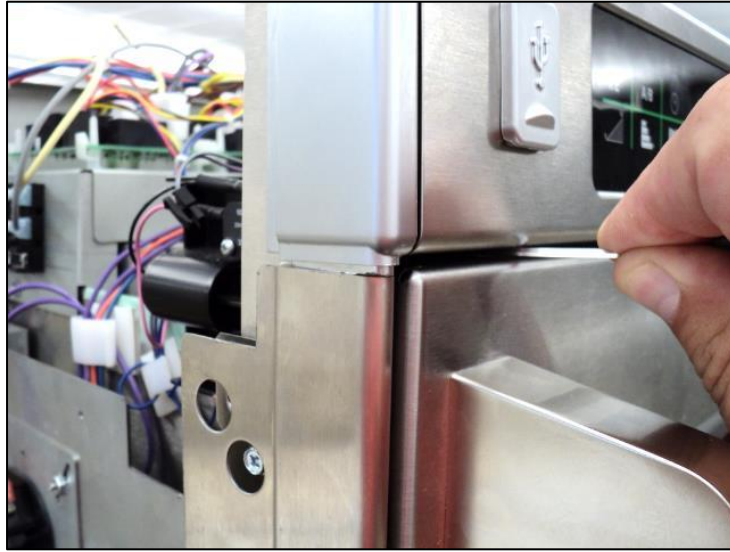

Figure 4
8. Using the 2mm Hex Key Wrench as a spacer between the top of the Door and the Control Panel, pull down on the Door Handle and observe the hinge arm. When the Hinge Arm aligns with the mark made in Step 2, tighten the Door Hinge TC/Hex Screws **securely** and repeat on the other side. See Figure 4